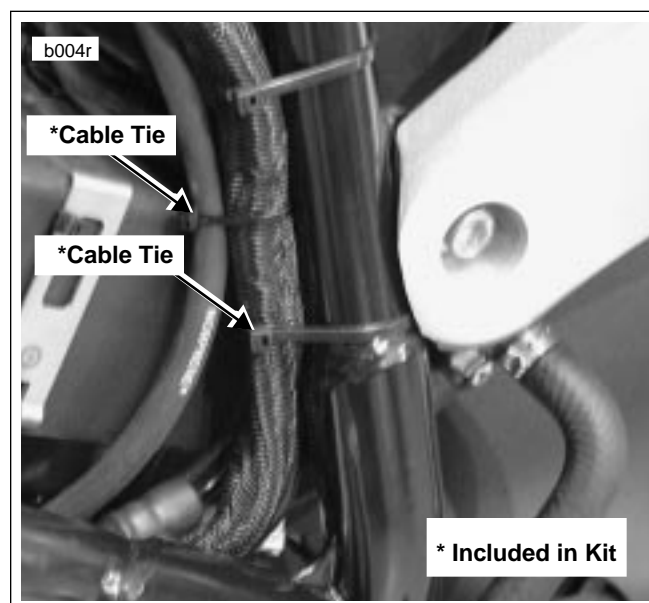

Figure 2. Rear Brake Line - Left Side
12. See Figure 2. Cut cable tie on wiring harness and cable tie on vent tube on left side of bike.
26. See Figure 2. Cable tie vent hose and wire harness to frame on left side of motorcycle. NOTE: Use thick cable tie on wire harness and thin cable tie on vent hose. Use care to avoid pinching hose.